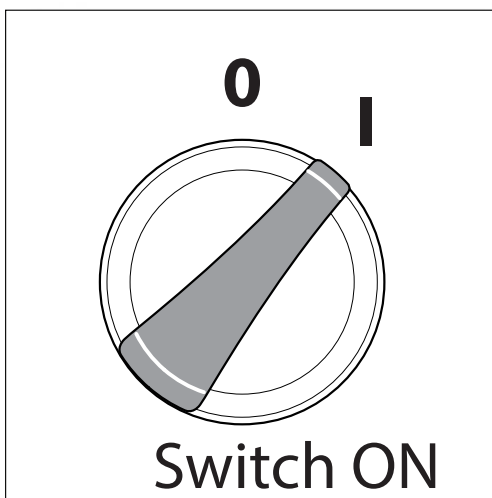
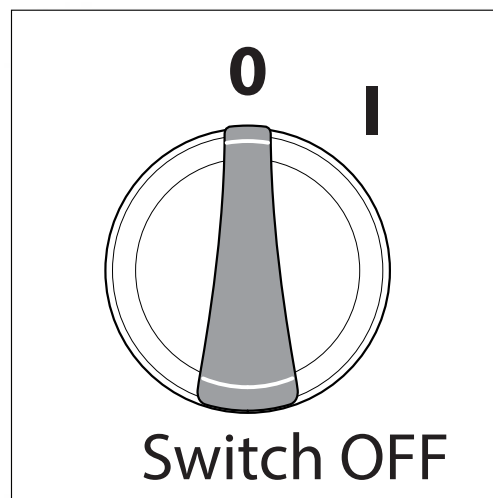

Fig. 16
Fig. 17
- Make sure the “ON/OFF” switch is in the “OFF” position. The power switch has international symbols for ‘on’ and ‘off’: On (I) Off (O), (**Fig. 16 & Fig. 17**).